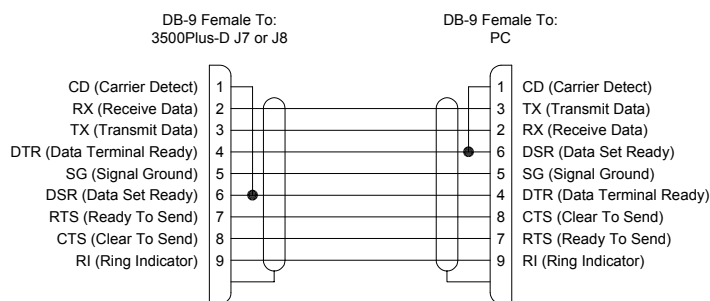

Figure 48. 3500Pro-D RS-232 CPU Link (Null Modem) Cable
- COM 1 is the primary RS-232 CPU Link and may be connected to the PC running 3500Pro Control System software with a null modem cable (Part No. 81-9028-0393-0). If necessary, a cable up to 50 feet in length may be fabricated in the field as shown in Figure 48. COM 1 may only be used with the P1E protocol, at either 9600 or 38400 baud. The communication rate is selected with switch S1 as described in “S1-3 COM 1 Rate” on page 44.